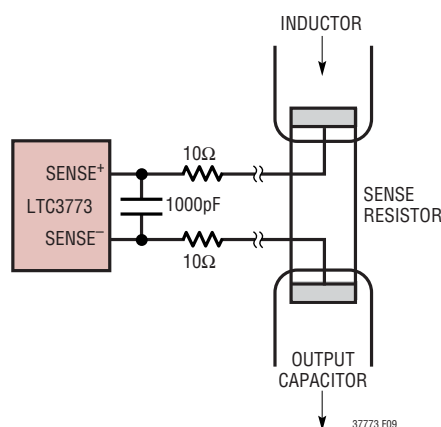

Figure 9. Kelvin Sensing RSENSE
- Are the SENSE- and SENSE+ printed circuit traces for each channel routed together with minimum PC trace spacing? The filter capacitors between SENSE+ and SENSE- for each channel should be as close as possible to the pins of the IC. Connect the SENSE- and SENSE+ pins to the pads of the sense resistor as illustrated in Figure 9.